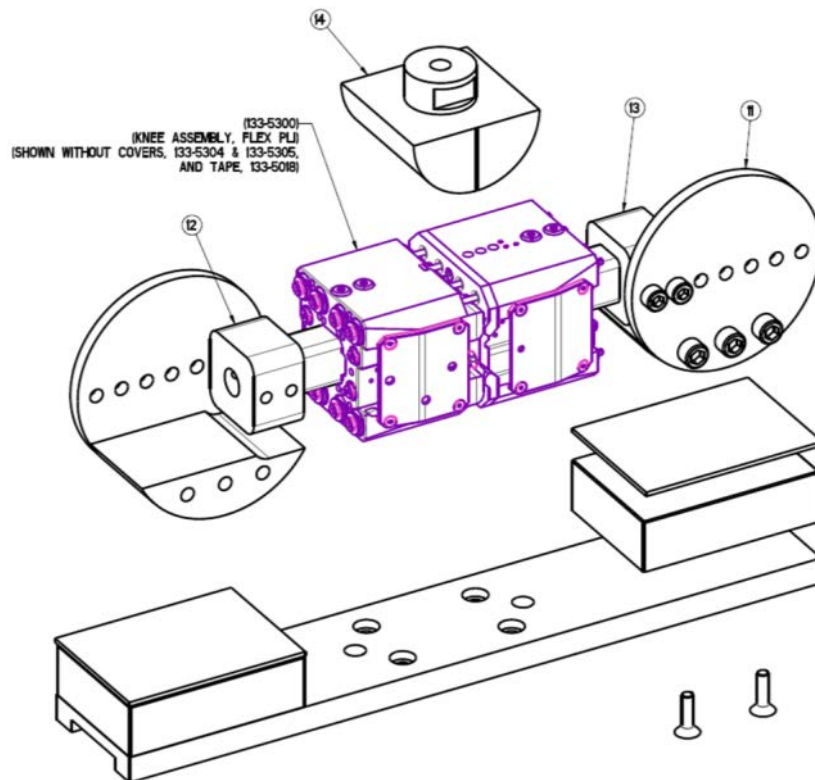
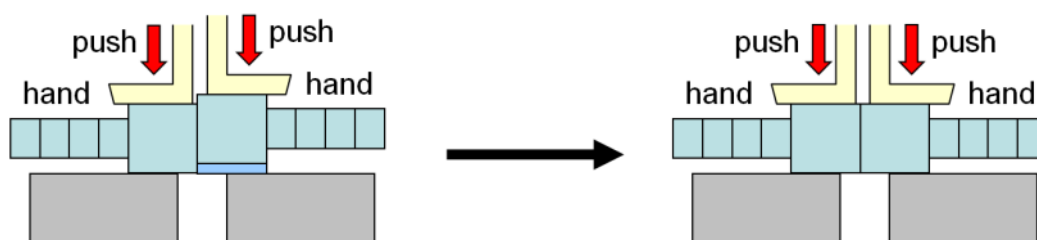

Figure 79. Static certification fixture 133-8120 showing knee
Figure 90 . Recommended method to align knee to remove any twist and shear
This operation requires the use of a materials testing machine with high definition load cell and some parts from calibration fixture 133-8120 see Figure 79. Temperature for this test must be between $20 \pm 2^{\circ}\text{C}$. Locate the femur insert into the femur knee block, the femur insert is 3mm longer than the tibia insert so it is important the correct insert is in the correct knee block or results will be wrong. Fit 2x M8 x 35 BHCS and tighten, then fit the 2x M8 x 30 set screws on the opposite side and torque all screws to 8 Nm. Follow the same procedure for the tibia insert. Assemble the fixture as shown ensuring the impact side is on the top and the two blue plastic covers have been removed along with the accelerometer if fitted and double sided tape. It is important to check that the two knee blocks are aligned before starting the test to remove any shear or twist in the assembly. A procedure like that used in figure 90 can be used and double checked with a straight edge.
The testing machine must be fitted with $\text{Ø}100\text{mm}$ 'D' shaped profile part 133-8105, see Figure 79. The center of the profile must be aligned with the top of the meniscus; a line is marked on the loading profile for this visual alignment. Plug string pots into recording equipment. A piece of Neoprene minimum size $85 \times 50 \times 5\text{mm}$ thick is placed over the loading point to prevent damage to the knee. The 85 mm dimension is the knee width dimension. This Neoprene is the same material used in the covers. The loading profile is brought down to contact the Neoprene at the zero load point. Then the test loading is started.
Step 4: Check knee blocks are aligned to ensure knee is not twisted or in a shear condition before the test. Using two equal height blocks push down on the back of the knee for y direction and also on one side of the knee for x direction as shown in Figure 90. A straight edge can be used to double check alignment after any adjustment on two sides.
Step 4: Check knee blocks are aligned to ensure knee is not twisted or in a shear condition before the test. Using two equal height blocks push down on the back of the knee for y direction and also on one side of the knee for x direction as shown in Figure 90. A straight edge can be used to double check alignment after any adjustment.